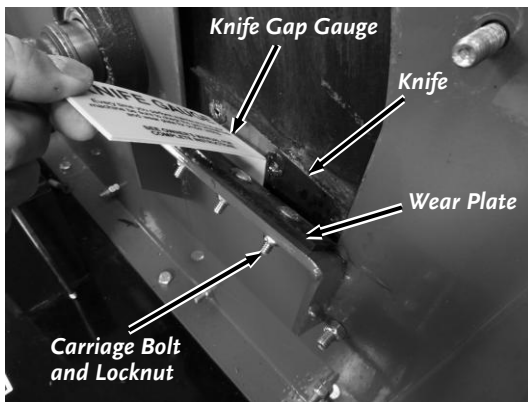

Figure 43
3. Slide the Knife Gauge in between the Knife and Wear Plate to check the clearance (**Figure 43**).